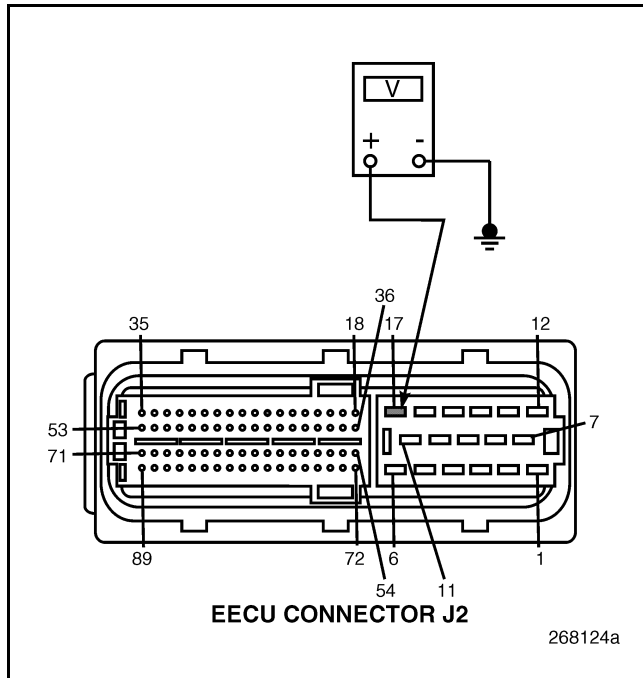

Figure 531
4. Measure the voltage between the EECU connector J2 pin 17 and a good ground (see Figure 531).